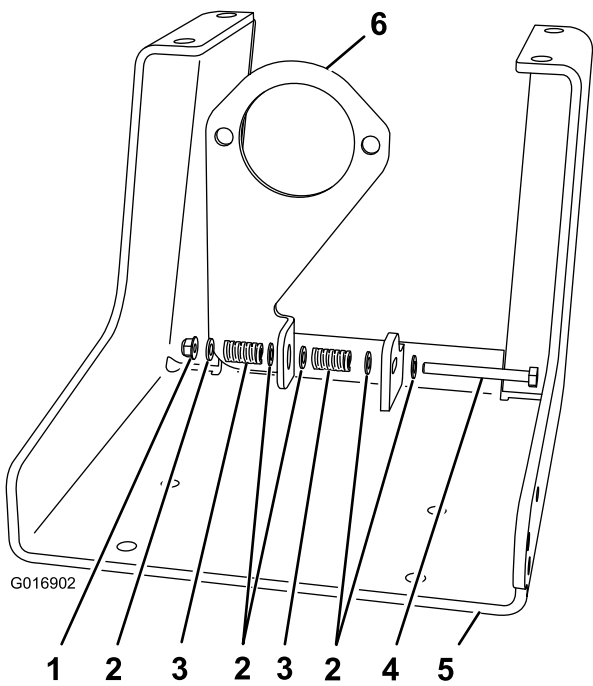

Figure 2
4. Slide the washer onto the damper bolt and insert them into the vibration mount hole on the spray pump mount bracket (Figure 2).
5. Slide the following parts onto the damper bolt in the following order: a washer (part no. 3256-23), a spring (part no. 110-5331), and a washer (part no. 3256-23) (Figure 2).
6. Insert the damper bolt (with the parts listed in step 5) into the plate hole (Figure 2).
7. Slide the following parts onto the damper bolt in the following order: a washer (part no. 3256-23), a spring (part no. 110-8331), and a washer (part no. 3256-23), and secure them with a locknut (part no. 104-8300) (Figure 2).